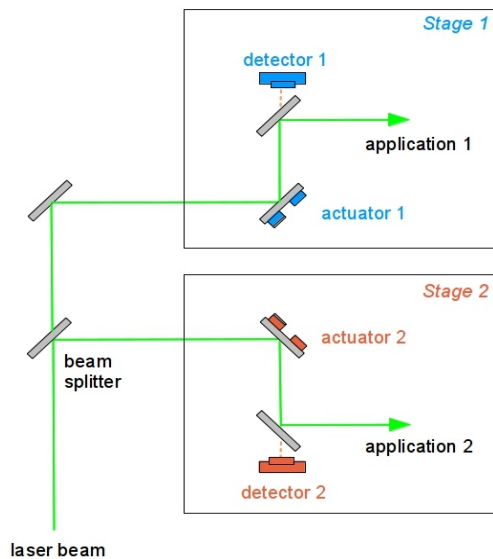

Figure 23: Set-up of a 4-axes system used as two 2-axes systems. With this set-up the position of two independent lasers can be stabilised with one controller.
- Figure 23 finally shows a different arrangement where the 4-axes system is used as two 2-axes systems, i.e. the two stages of the controller are used to separately stabilise two independent beam lines.